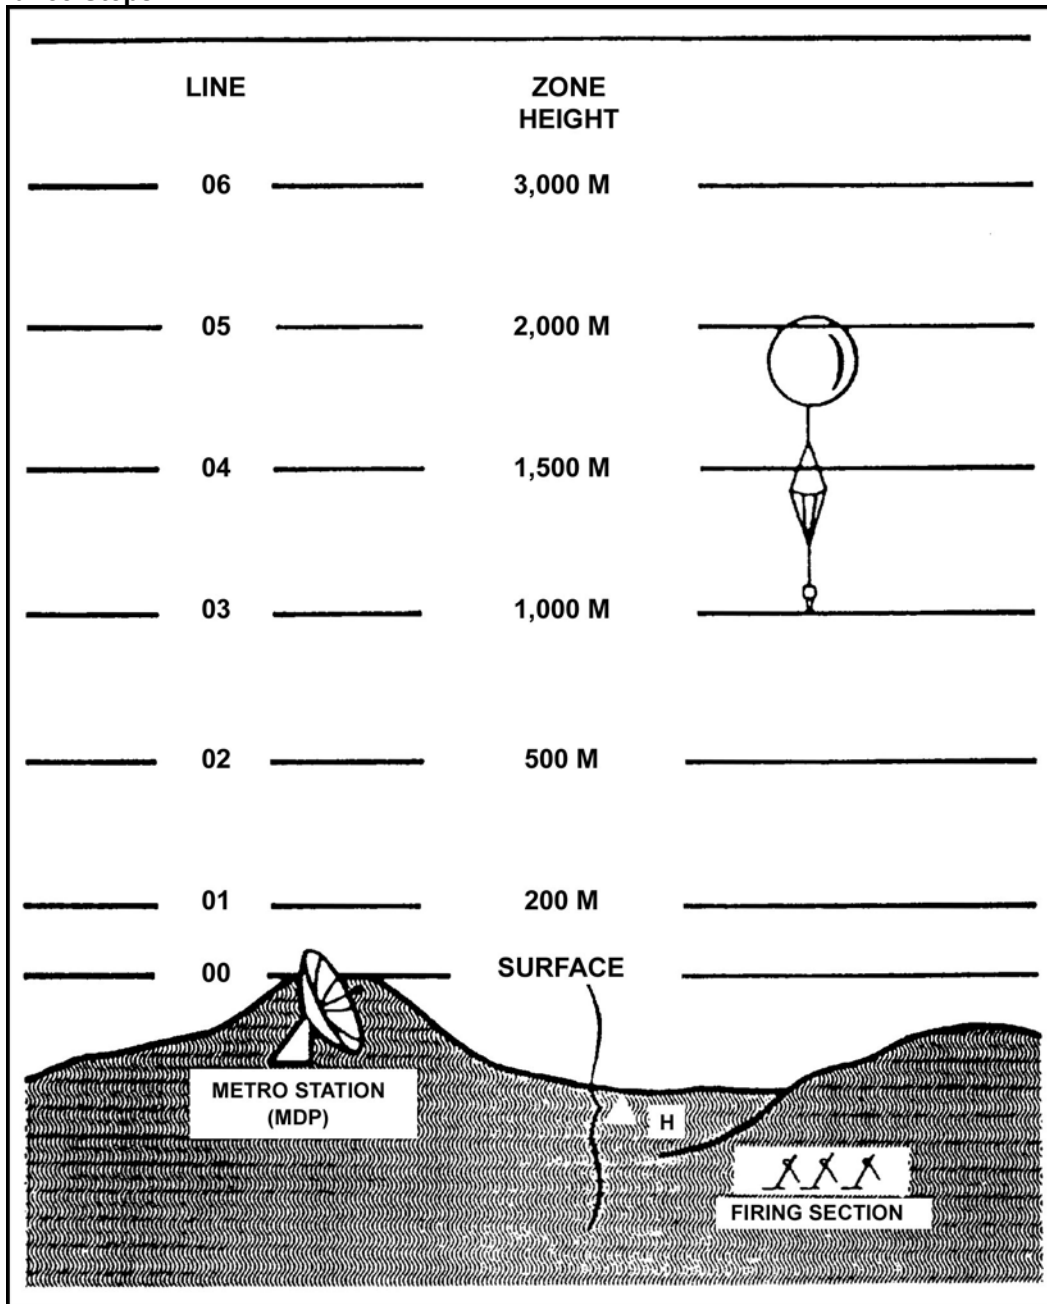

Figure 3. Height zones.
3. Body. The atmosphere is divided into height zones parallel to the MDP (Figure 3). MET conditions are determined for each height zone and recorded in two six-digit groups. The data for each zone are numbered, beginning at "00" for the zone containing the MET station, and recorded on the line bearing the corresponding number.